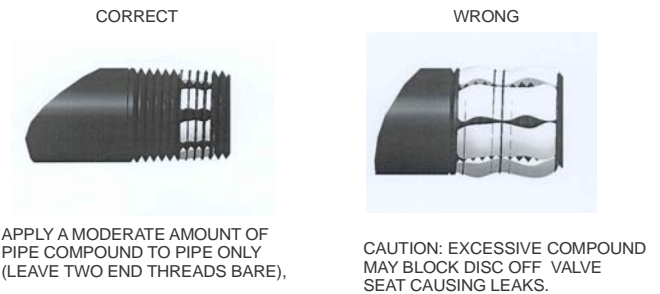

Figure 1: Use a Moderate Amount of Pipe Compound
6. For any threaded connections, threads of pipe and nipples must be smooth and free of tears and burrs. Steam clean all piping inside diameter to remove foreign substances such as cutting oil or thread chips before installing into the valve. Apply a moderate amount of good quality pipe compound (do not use Teflon tape) to pipe only, leaving two end threads bare (see Figure 1). On LP in use compound resistant to LP gas.